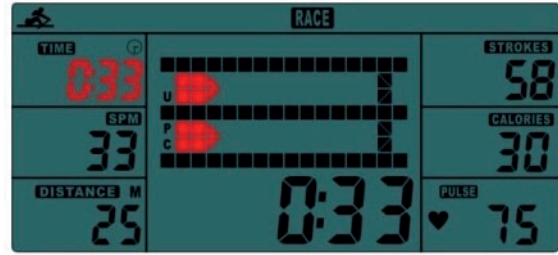

Fig. 6
STOP will disappear. USER(U) and PC will display in the matrix (Fig.6).